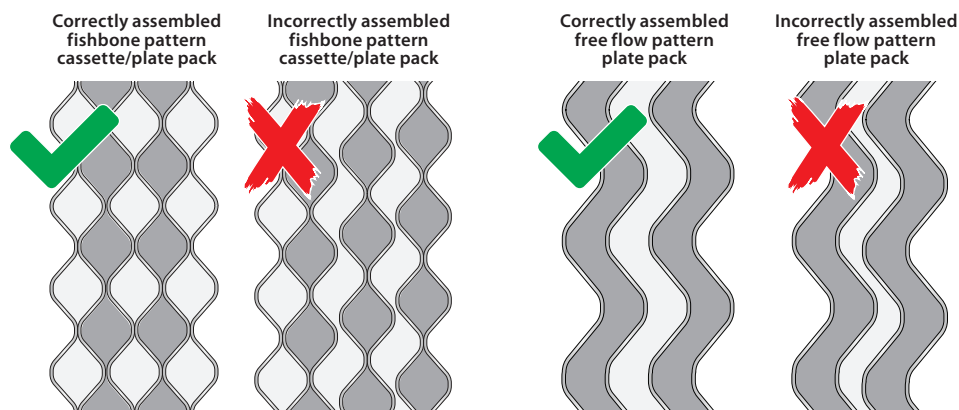

Fig. 40
- Check the plate/cassettes honey comb profile for uniformity (see fig. 40)